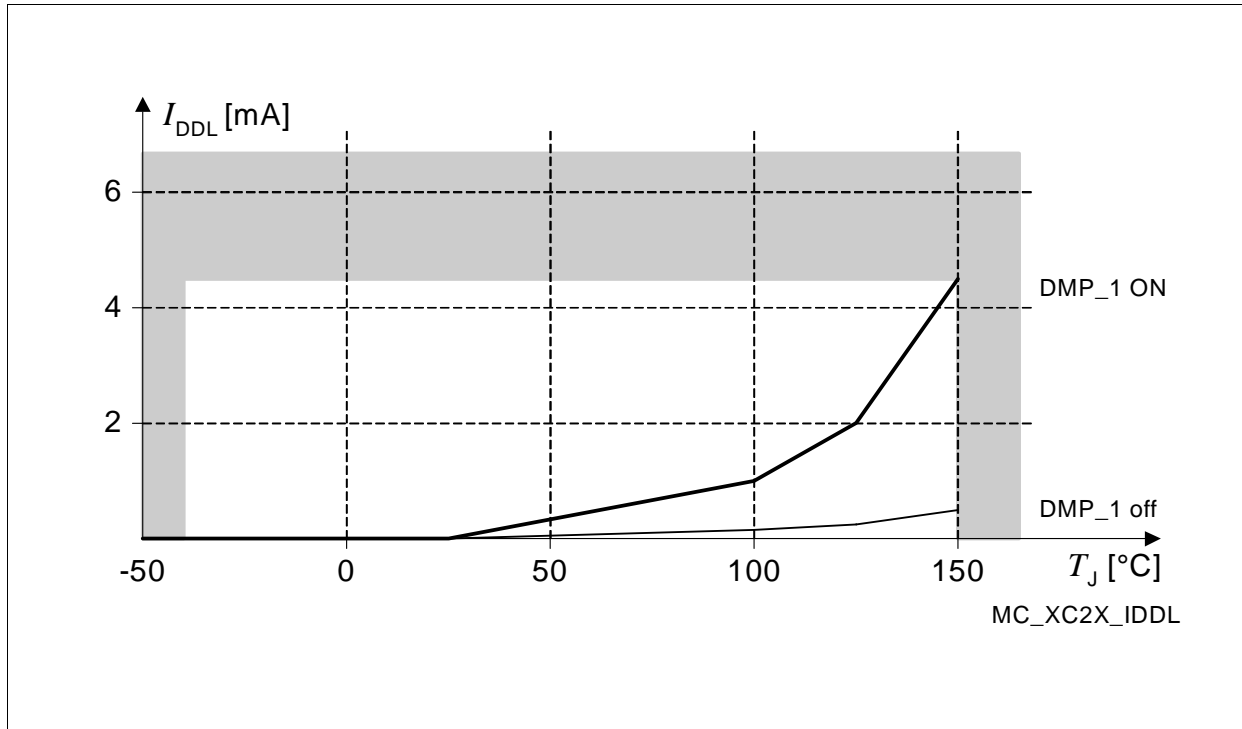

Figure 12 Leakage Supply Current as a Function of Temperature
- 1) The supply current caused by leakage mainly depends on the junction temperature (see Figure 12) and the supply voltage. The temperature difference between the junction temperature T_J and the ambient temperature T_A must be taken into account. As this fraction of the supply current does not depend on the device's activity, it must be added to each other power consumption parameter.